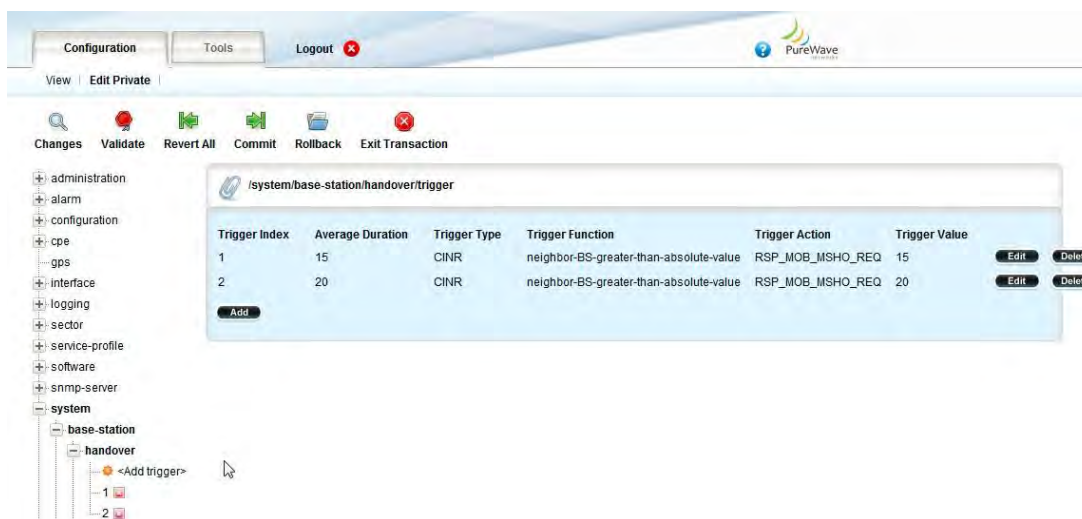

Figure 69 Base Station Handover
- **External Radius Server Settings (Figure 69)**